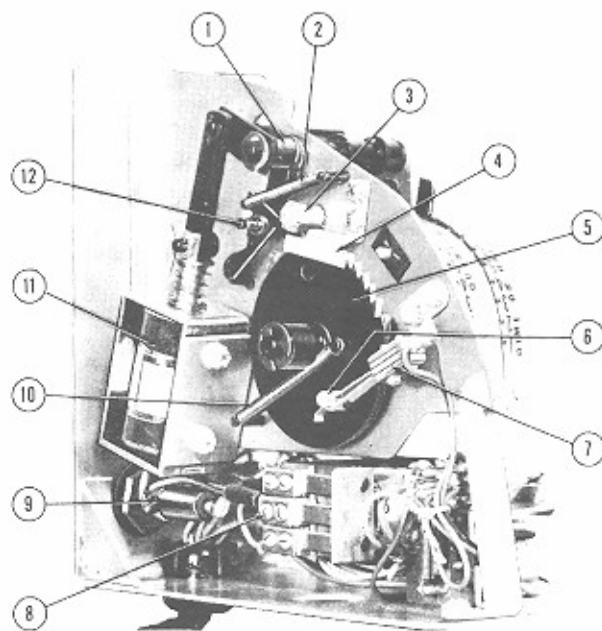

Fig. 10. COIN REGISTER MECHANISM - OPERATION
lator wheel. Under spring loading, the accumulator wheel will advance to a point determined by the accompanying "accumulator stop lever". The spring loading of the accumulator wheel, being stronger than that of the cancel wheel (Fig. 10) will advance the cancel wheel a number of teeth as determined by the accumulator stop lever setting. Advance of the cancel wheel one or more teeth moves the key switch actuator away from the blade of the key switch and allows the switch to close.
(3) Closing of the key switch (Fig. 10) energizes the set-up relay. The electrical condition provided by the closed key switch permits selection until the key switch is again opened by action of the cancel wheel and key switch actuator.
(1) When selection is made the cancel solenoid (Fig. 10) will be energized. Cancel action operates the "pivot arm and pawl" assembly (Fig. 10) which retracts the cancel wheel one tooth.